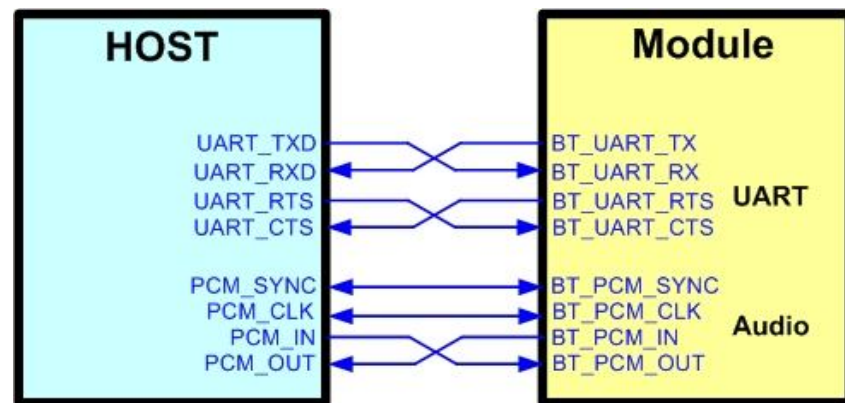

Figure5. Bluetooth verification connection interface to Host UART
- ❖ Refer to Figure5 UART pin definition connects the J16 interface of AP5811SA evaluation board to Host UART control interface.